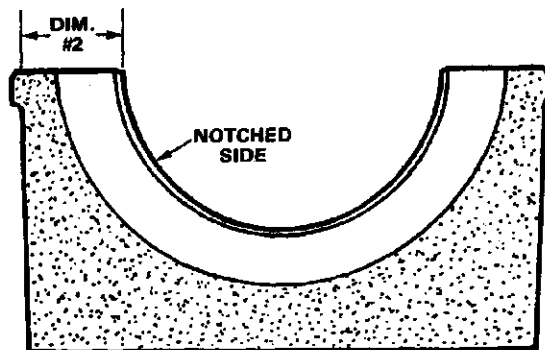

**Figure 7.67. Machine Surface "A"**
- e. Now modify surface "A" by machining the appropriate amount of material calculated in step c above. Refer to **Figure 7.67**.